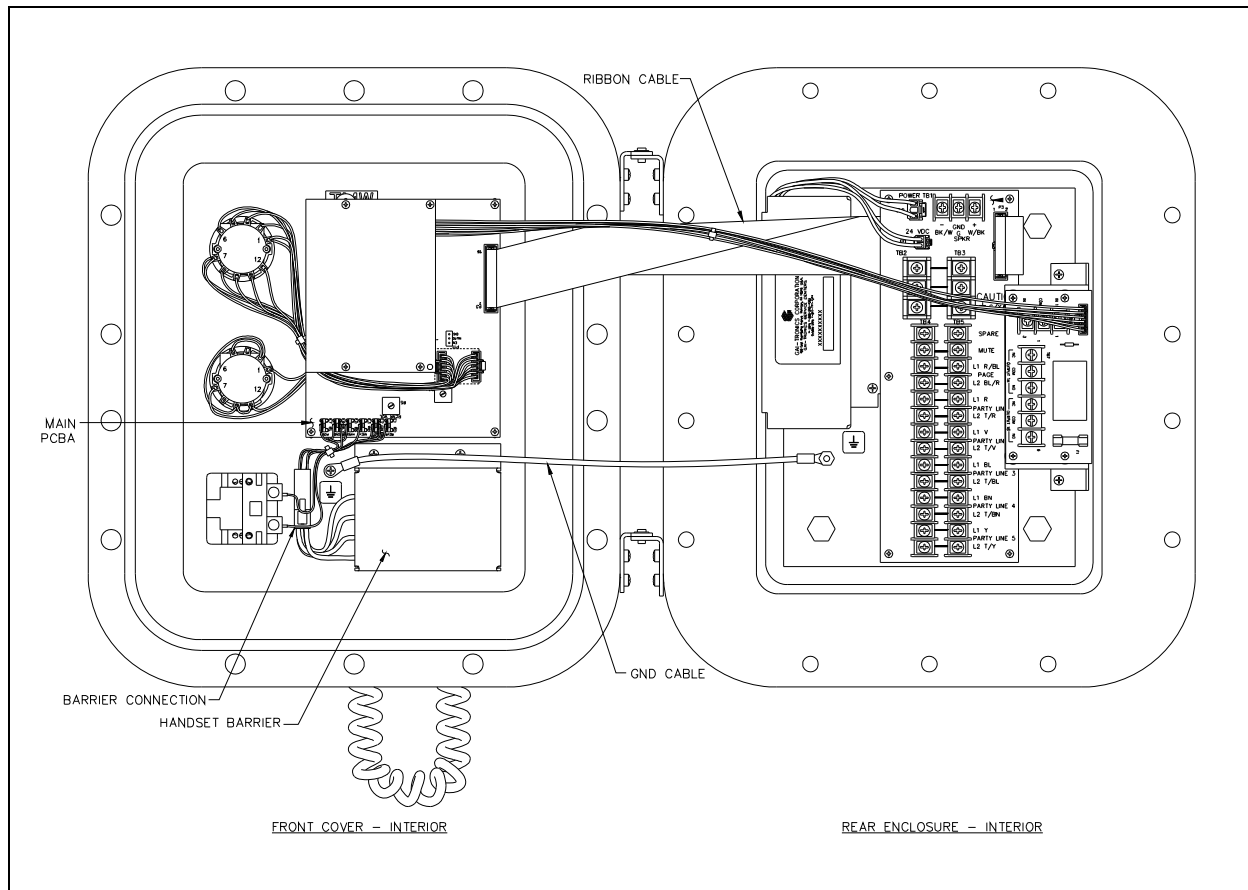

Figure 1.
2. Disconnect the connection between the Handset IS Barrier and the Main PCBA on the front cover. Remove the two screws holding the handset barrier assembly to the front cover. Set the screws aside for re-assembly. See Figure 1.